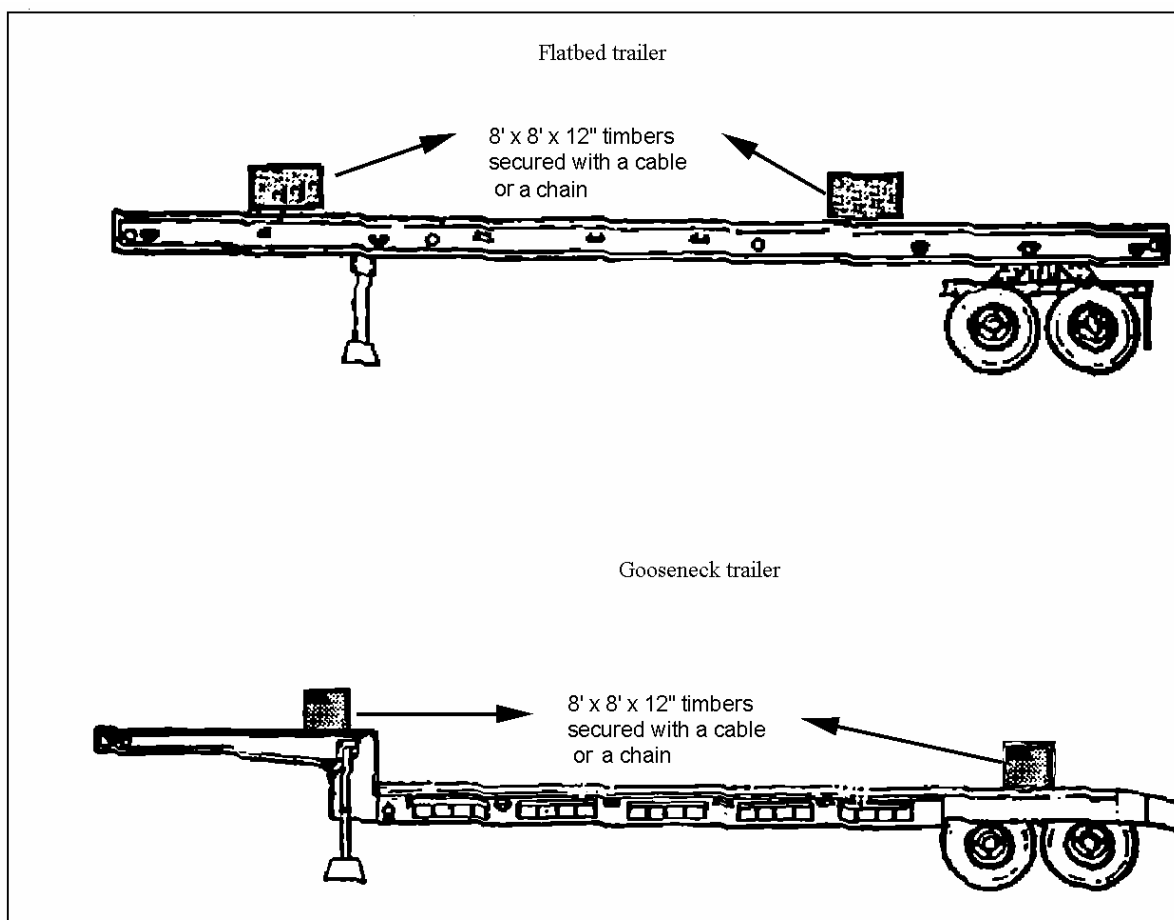

Figure 052-226-1060-1
1. Position the tractor and trailer in front of the loading ramp or dugout, and lock the trailer's brakes. Prepare the trailer with timbers secured with a cable or a chain (Figure 052-226-1060-1).